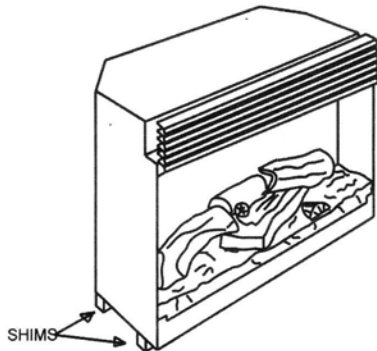

FIGURE 7
5. Level, if required with wood shims (not included) (FIGURE 7).